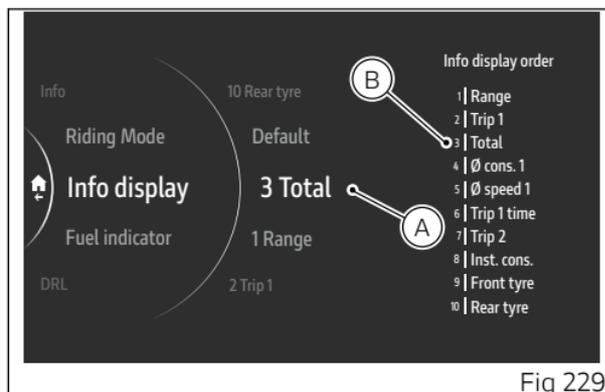

Fig 229
- Press ENTER to confirm. The order of the Info display is then updated with the new position (B, Fig 229).